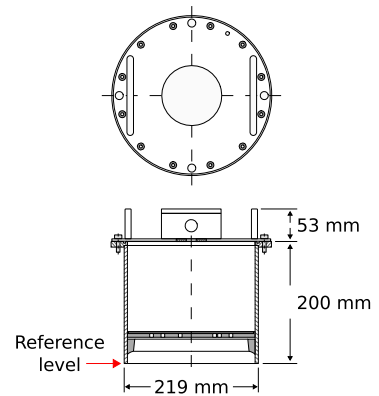

Figure 1.2: The reference level for mounting height measurement.
- The reference level for the mounting height of the radars is shown in Fig. 1.2.